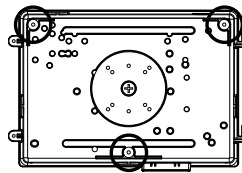

Figure 24
4. Drill through the three (3) corner mounting holes on the back plate. (see Fig. 24)